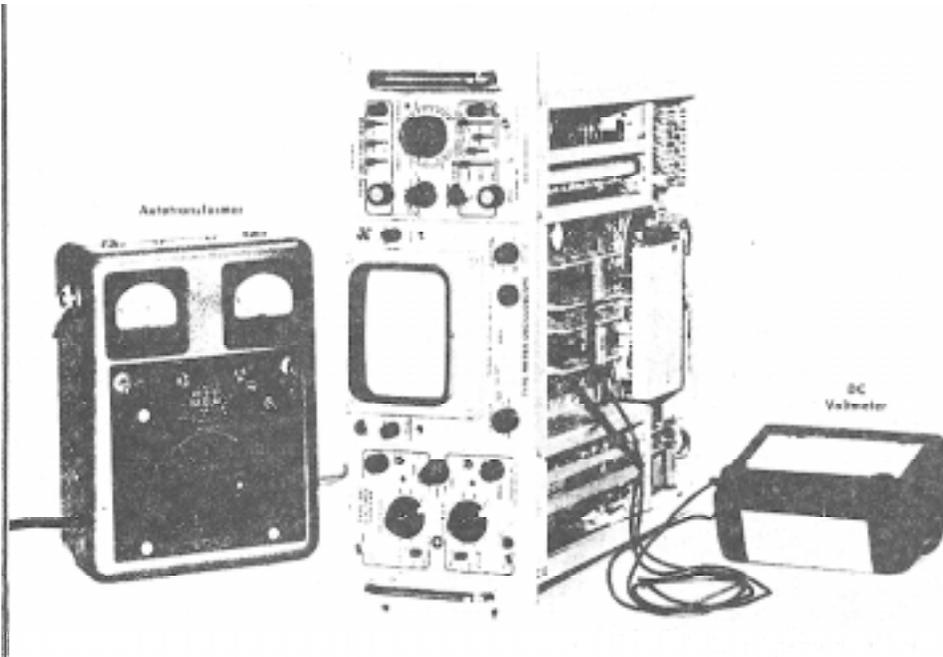
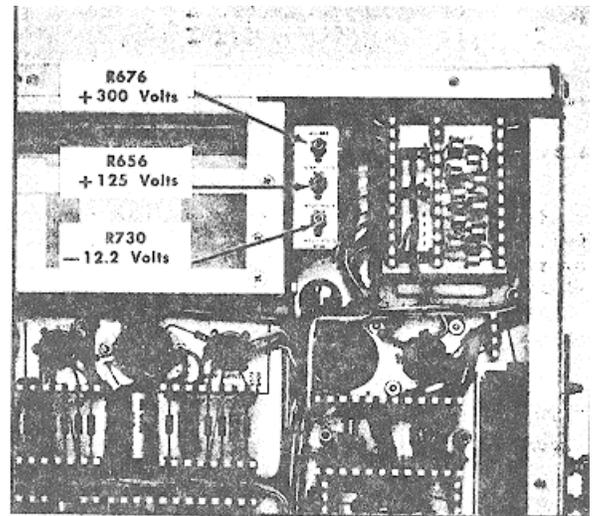

Fig. 6-3. Test equipment setup for power supply adjustments.
Fig. 6-5. Location of + 125-, +300- and --12.2-volt adjustment (bottom view).
- a. Test equipment setup is shown in Fig 6-3.
- a. Test equipment setup is shown in Fig. 6-3.
4. Adjust -1 2.2-Volt Power Supply ①
- d. ADJUST-12.2 Volts adjustment, R730 (Fig. 6-5), for -12.2 volts.
5. Adjust High-Voltage Power Supply ①
- d. ADJUST-+125 Volts adjustment, R656 (Fig. 6-5), for +125 volts.
3. Adjust +300-Volt Power Supply ①
- d. ADJUST-+300 Volts adjustment, R676 (Fig. 6-5), for +300 volts.